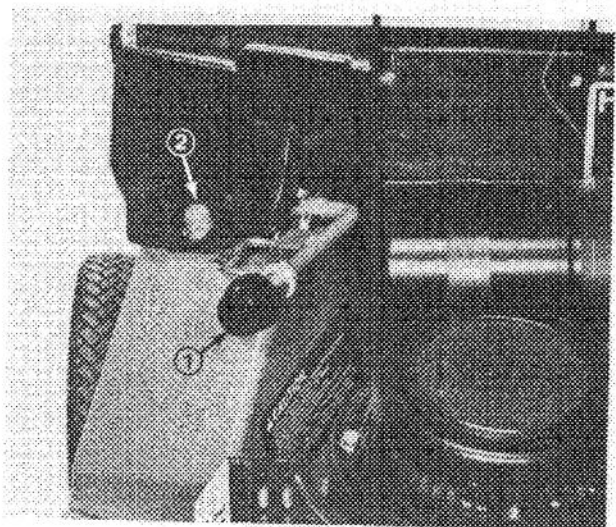

Figure 15
3. Slide guide hole in bag door onto locating stud on mower housing (Fig. 15), then rest rear of bag frame onto support rod on handle.